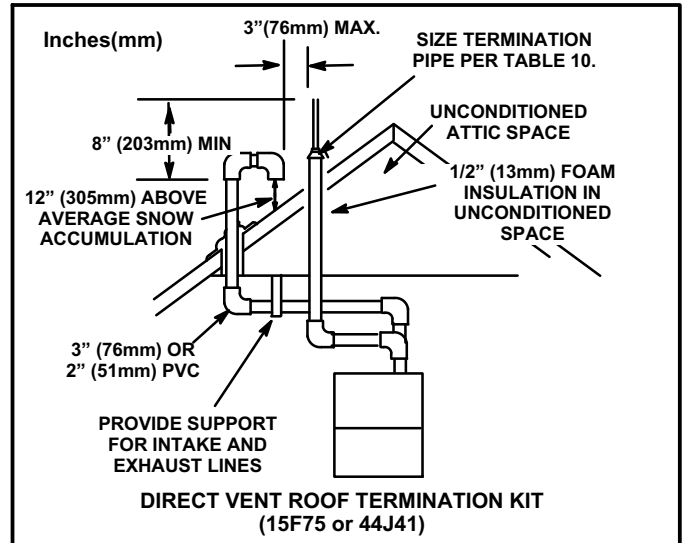

FIGURE 31
Intake and exhaust pipes may be routed either horizontally through an outside wall or vertically through the roof. In attic or closet installations, vertical termination through the roof is preferred. Figures 31 through 39 show typical terminations.
- 3 - On roof terminations, the intake piping should terminate straight down using two 90° elbows (See figure 31).